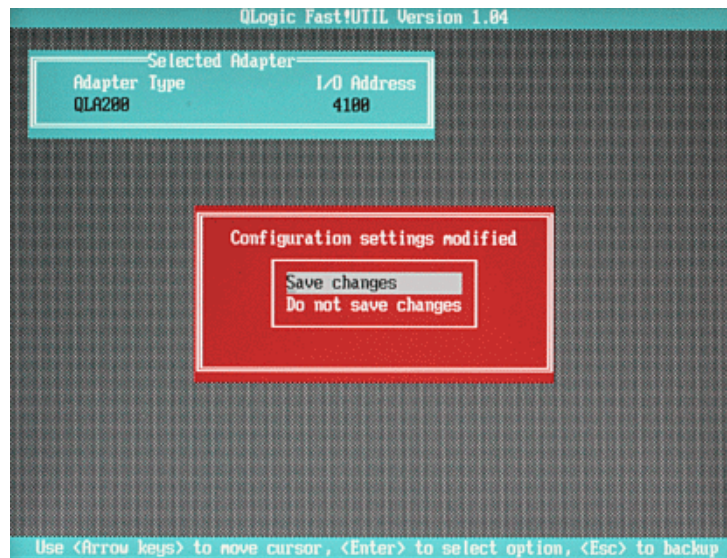

Figure 9-86 Save modifications
25. Save the modifications by selecting **Save changes** as shown in Figure 9-86 and press **Enter**.